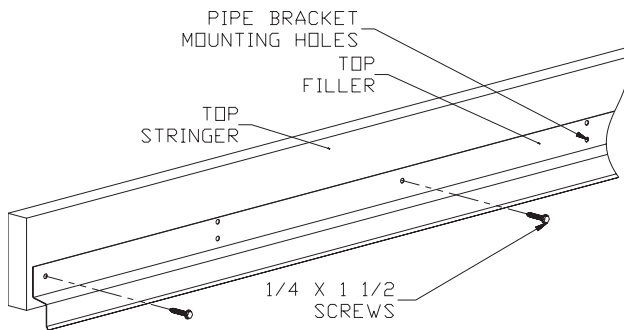

Figure9
1. Beginning at the drain end, install the top filler sections along the chalk line shown in Figure 2 using the 1/4" x 1 1/2" hex head screws provided. Attach the top filler to the wall using the single holes as shown in Figure 9.